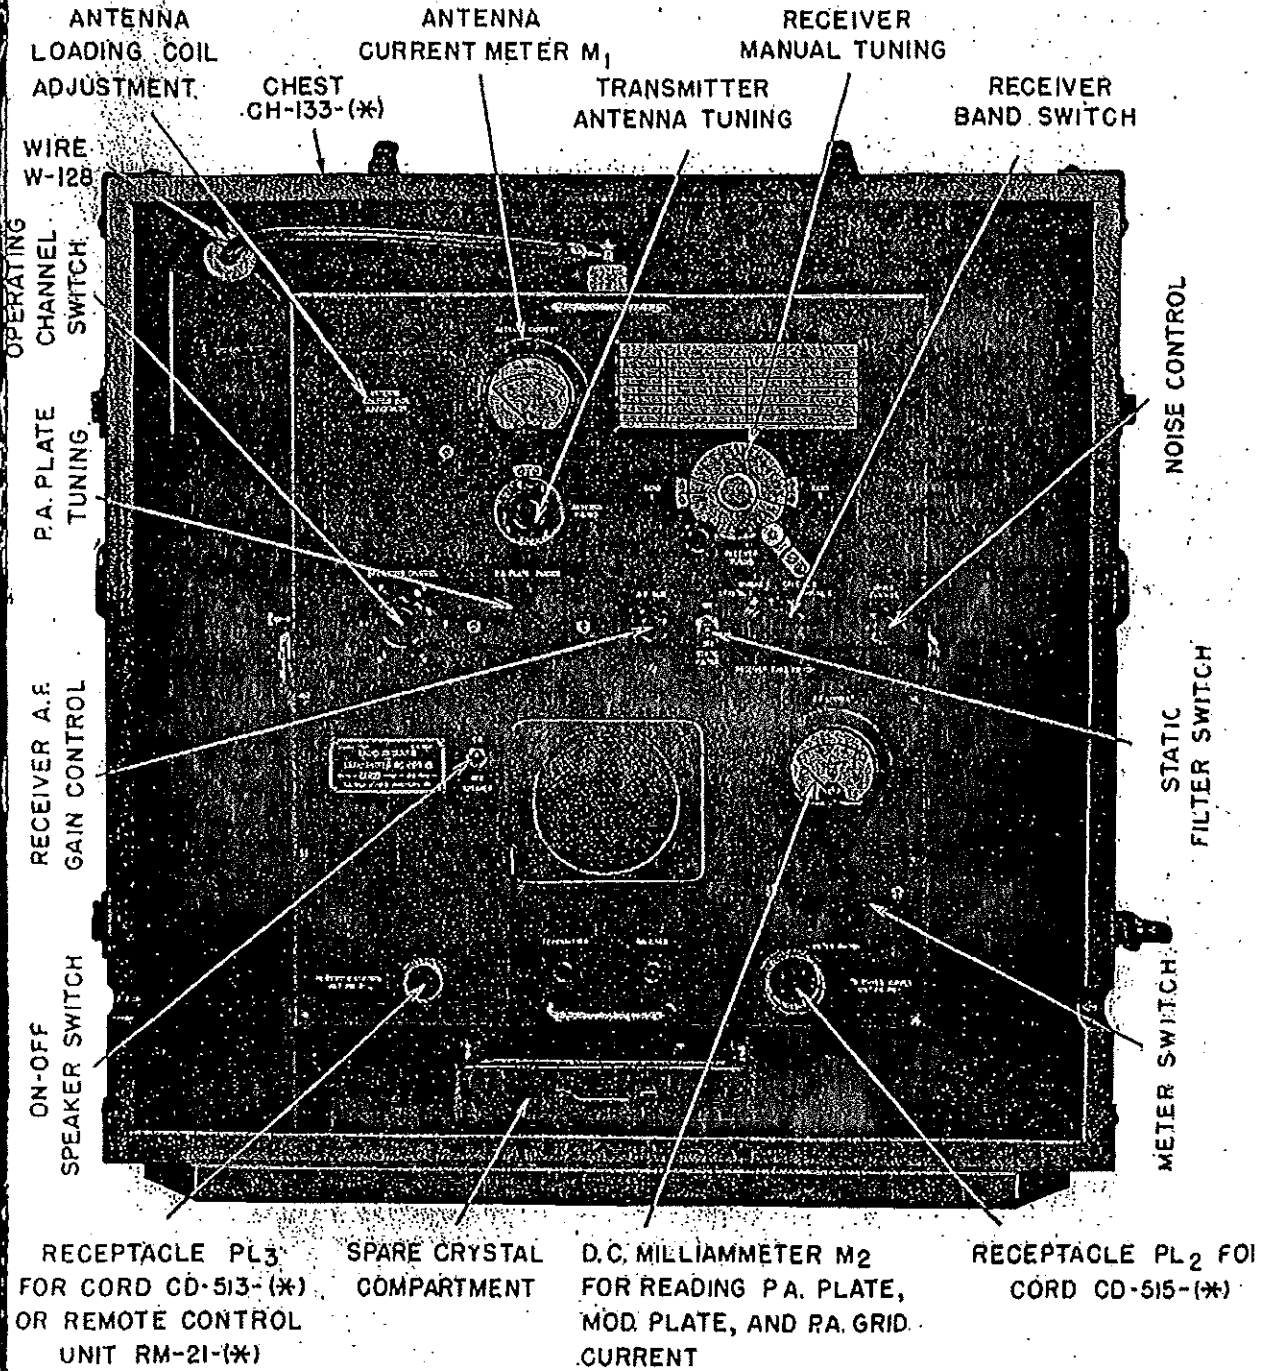

Fig. 3 - Radio and Transmitter BC-669(*) in Chest CH-133-(*).
- a. **Radio Receiver and Transmitter BC-669-(*), in Chest CH-133-(*).** (See Figure 3).—
- (1) This unit consists of Chest CH-133-(*) containing the following:
- (2) **Size of chest.**—28½" wide x 20⅝" deep x 29¾" high.
- (3) **Total weight.**—182 lbs.
- (4) The receiver and transmitter are in a sheet steel cabinet which is shock-mounted in the chest. The front of the chest is removable so you can get at the equipment; the front may be put back on while
frequency band, a toggle switch for turning the **STATIC FILTER** on and off and a control for varying the audio gain. The antenna connection is made by means of a feed-through binding post located on top of the cabinet, and a binding post is also located on the left hand side of the cabinet for making the ground connection. The components on the front panel are shown in figure 3.